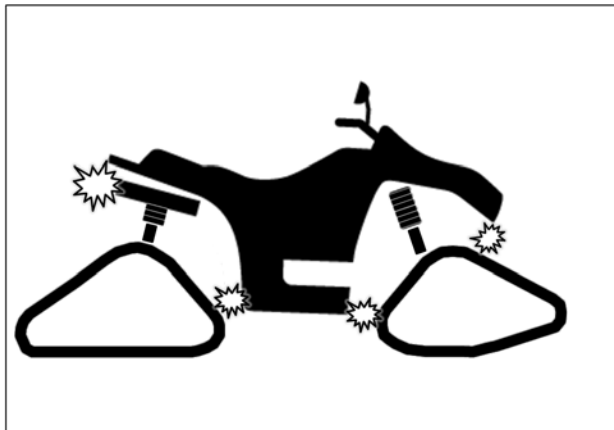

Fig. 26
2. Verify for possible contact between Track System and lower fender corners. See Fig. 26